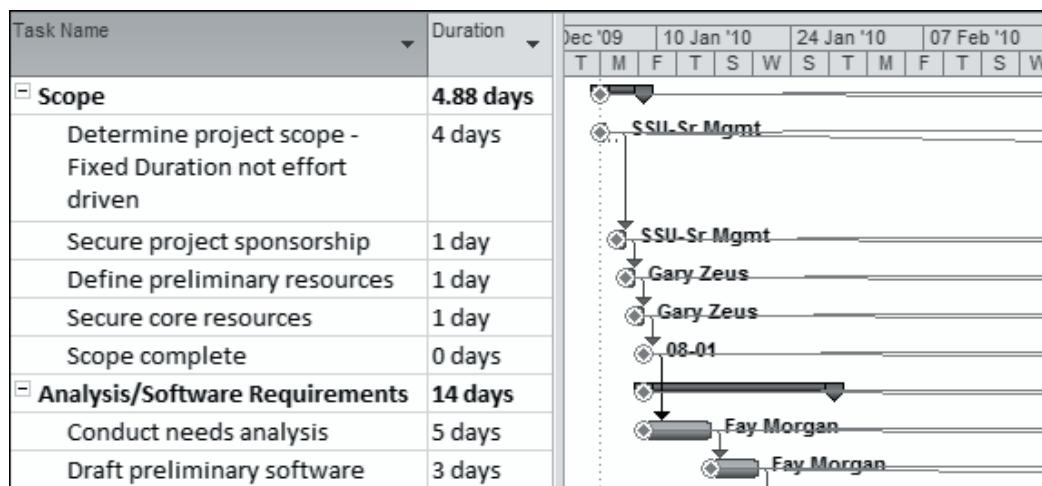

Figure 11.10: Progress Lines of Tasks Set at Project Status Date
5. Select a date from the **Progress Line Dates** drop-down calendar to display a progress line on a specific date as shown in figure 11.10.